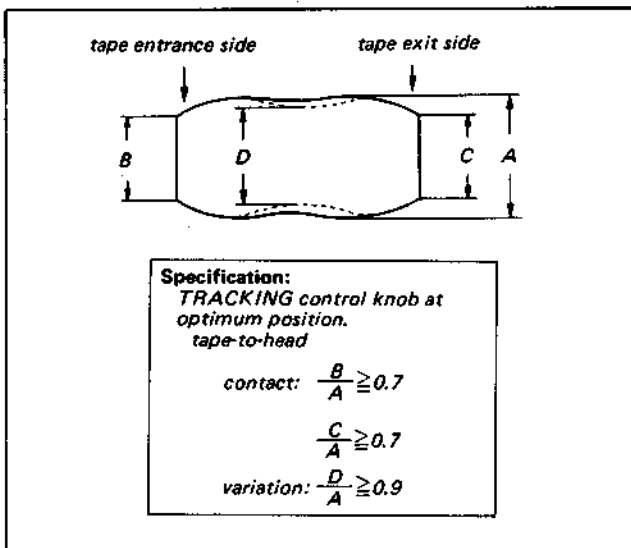
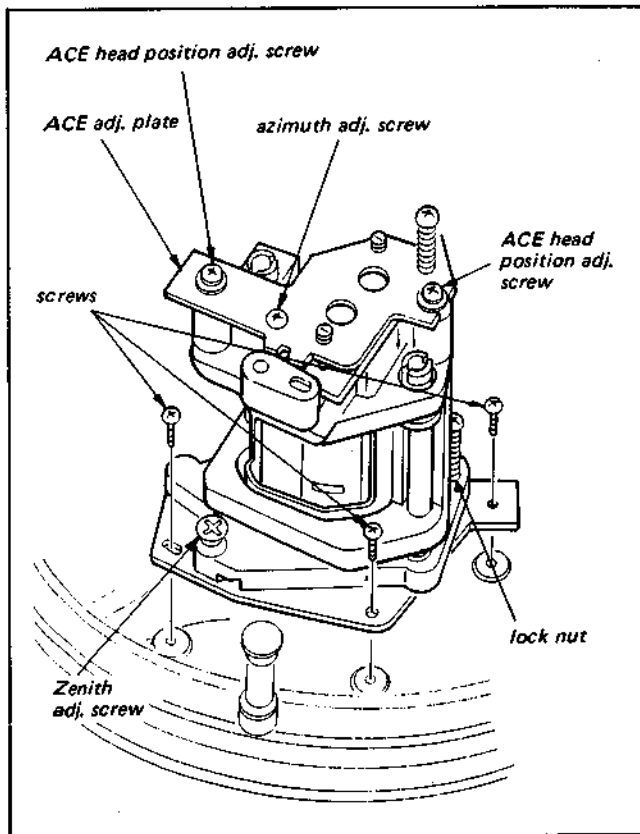

Fig. 3-46. Adjustment of tape path
Fig. 3-49. Removal of ACE assembly
5. Confirm that the fluctuation and the tape-to-head contact satisfy the specification shown in Fig. 3-46. If they do not, perform Step 6 for the adjustment.
- The ACE assembly can be removed if the three screws shown in Fig. 3-49 are removed.
- Play back the 1 MHz segment of the alignment tape (KR5-1J). Confirm that the RF wave output (see Fig. 3-46) satisfies the specification and there is a minimum curl (not more than 2 mm) on the tape edge contacting the tape guide. Confirm that the RF waveform varied from the flat state when the tape guides (E) and (F) are raised and adjust the heights of the tape guides so that the waveform output becomes flat.
- When the waveform does not vary if the tape guides (E) and (F) are raised in Step 4 or when the waveform does not become flat if the tape guides are lowered, perform the adjustment, following the procedure below.
- Loosen the lock nut shown in Fig. 3-49.